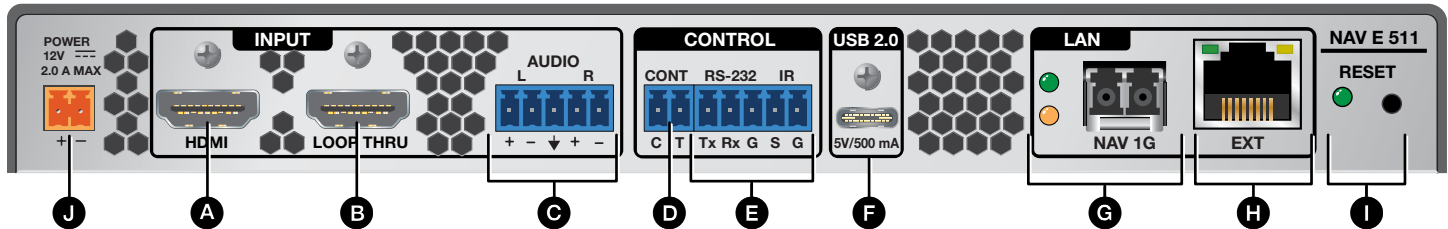
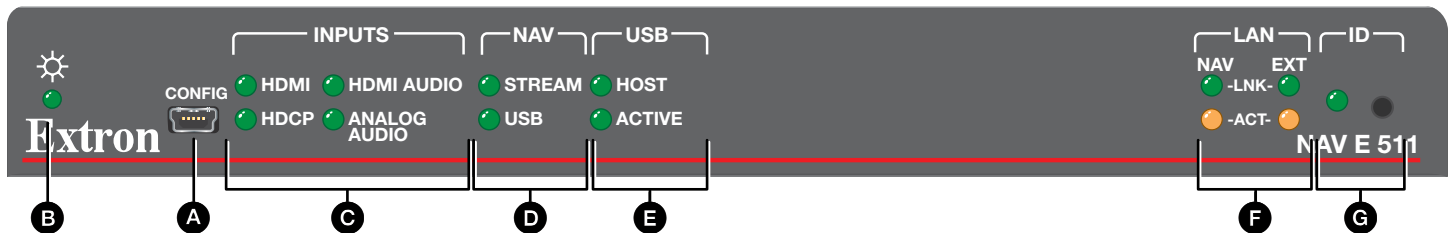

Figure 1. NAV E 511 Rear Panel Features
Figure 2. NAV E 511 Front Panel Features
- G NAV 1G port** (see figure 1 on page 1) — Use a pair of fiber cables to connect to a LAN on which one or more decoders also reside for streaming and control.
E USB LEDS (see figure 2 on page 2 — Indicate the status of the USB stream, as follows:
Connection to the encoder and its embedded web pages can be made via either the front panel Configuration (USB) port (using IP over USB technology) (see figure 2, A on page 2) or the rear panel NAV 1G port (see figure 1, F on page 1).